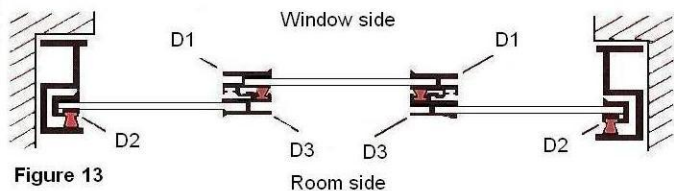

Figure 13
b) Before fixing, ensure that both side tracks are positioned the same way with the small rib on the window side of each track and projecting into the window opening (Figure 13).
Follow the same general procedure as Instruction 4, referring to Figure 13 or 15 as appropriate for positioning of the vertical glass carriers and their seals. Inner panes do not contain Section D2.